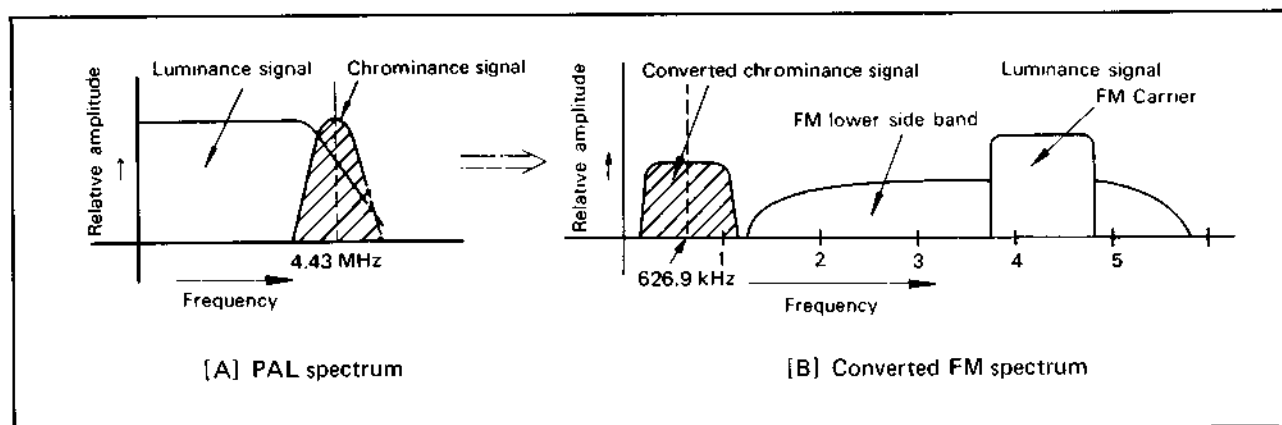

Fig. 3-2 PAL and converted FM spectra
The input video signal is converted into an FM signal prior to recording (then demodulated during playback). In order to maintain time base stability, the luminance (Y) and chrominance (chroma) signals are processed separately. Refer to Fig. 3-2.
The subcarrier is converted from 4.43 MHz to 626.9 kHz, mixed with the FM luminance signal, then recorded as a sideband of 626.9 kHz. The FM signal also functions as AC bias for 626.9 kHz colour signal. Fig. 3-2(A) shows the PAL spectrum, while (B) illustrates the converted spectrum.